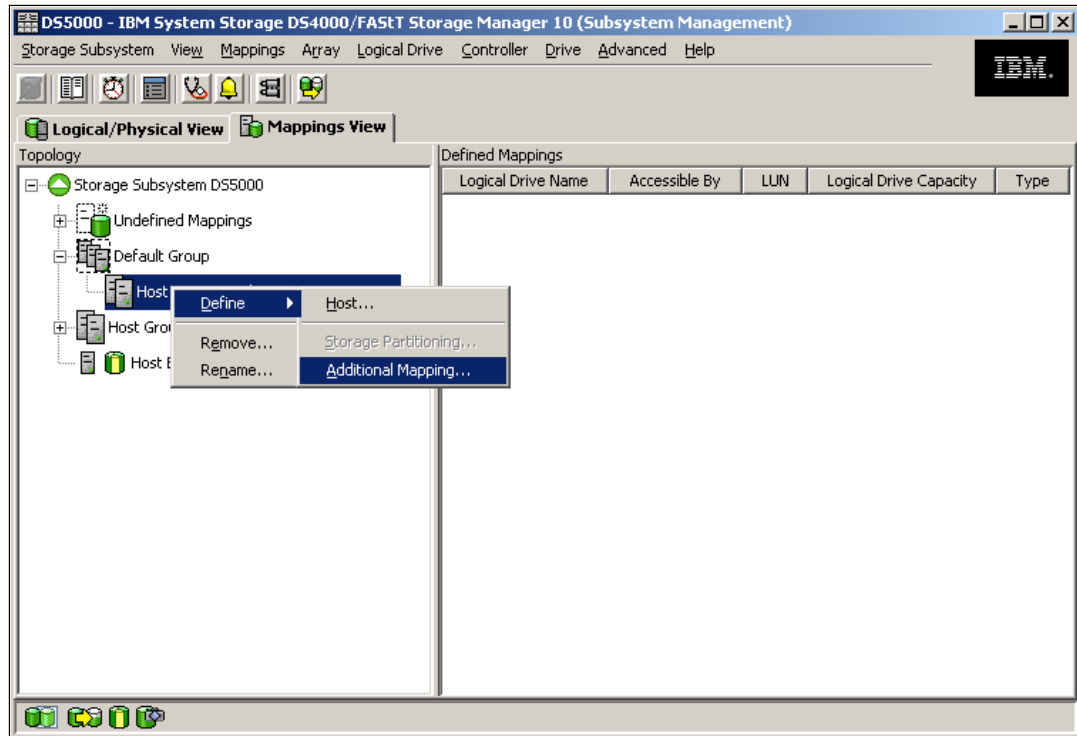

Figure 3-83 Define Additional Mapping
1. Right-click the host or group to which you want to map a new logical drive. Select **Define** → **Additional Mapping**, as shown in Figure 3-83.